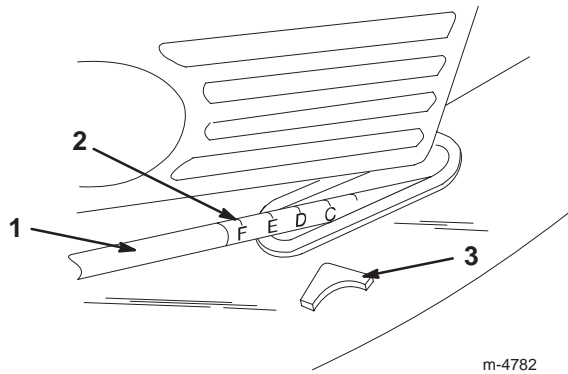

Figure 16
5. Lift up or press down on the handle, and use the pointer and the cutting height setting on the link rod to set the lawn mower to the desired cutting height (Fig. 16).